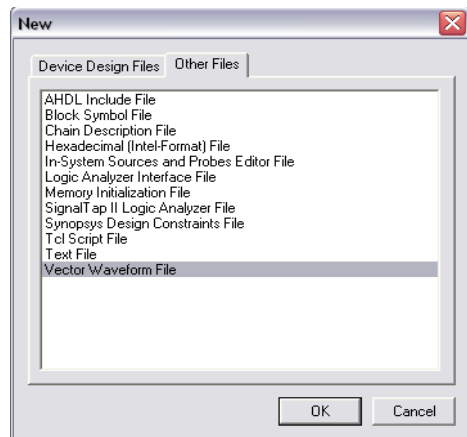

Figure 26. Need to prepare a new file.
1. Open the Waveform Editor window by selecting **File > New>Other Files** tab, which gives the window shown in Figure 26. Choose **Vector Waveform File** and click **OK**.